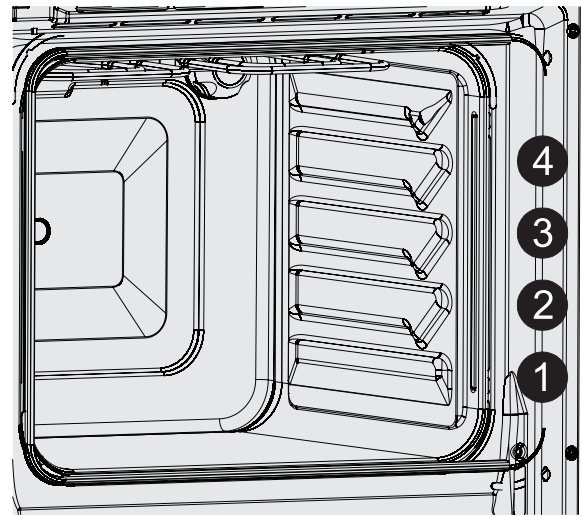

Figure 15: Oven rack positions
- For best results when baking with one oven rack, place racks in positions 2 or 3 (Figure 15).